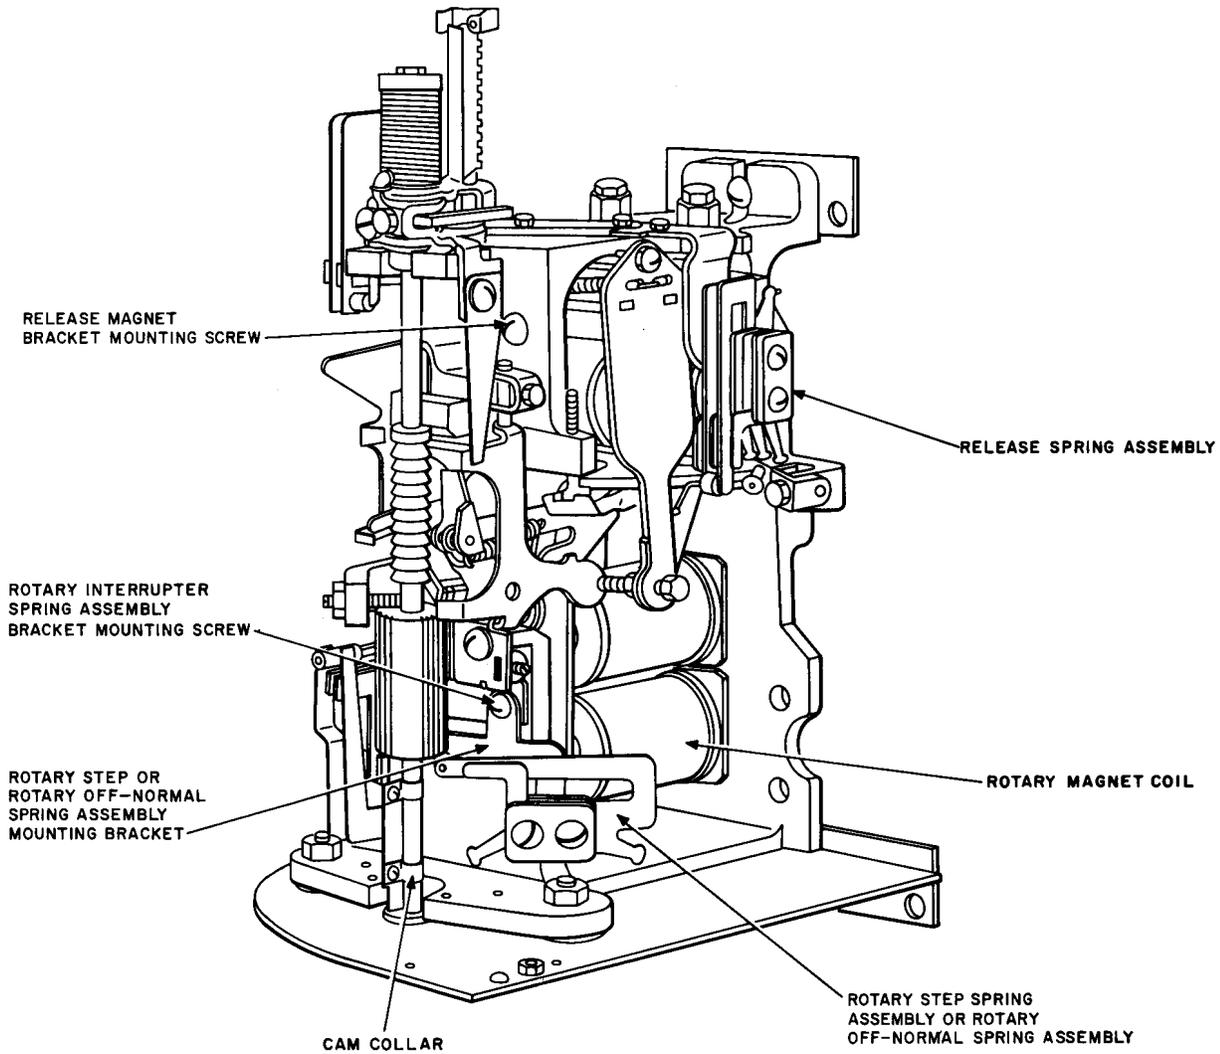

Fig. 10—Parts of 197-Type Switch as Viewed From the Right Side
3.08 Release Spring Assembly (Fig. 10): To replace this spring assembly, tag and disconnect the leads connected to the springs. Remove the screw which mounts the release spring assembly bracket to the frame with the 563A or 564A offset screwdriver. Remove the release spring assembly from the frame by drawing the assembly toward the front or rear of the switch as required to free the contact springs from the stud on the release armature. Mount the new spring assembly in position, and insert the mounting screws. Before tightening the mounting screws, note that the stud of the release armature is in the proper position for operating the release contact springs. Connect the leads to the terminals of the release contact springs.